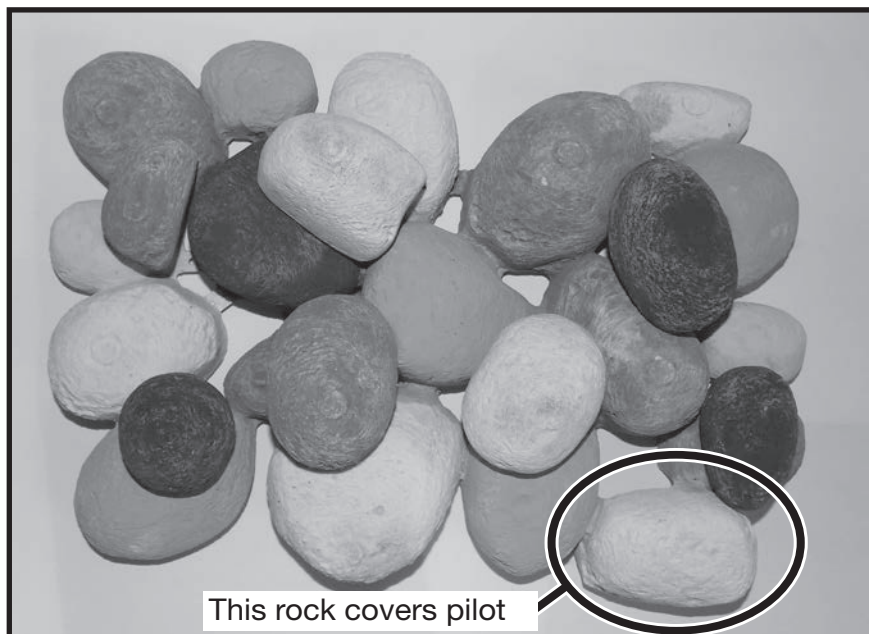

Figure 25: Tranquility rock set
26. Remove pebble assembly from packaging by placing hand on top and tipping upside down. Note that the rock in the lower right is hollow underneath and will fit over top of the pilot assembly (Figure 25).